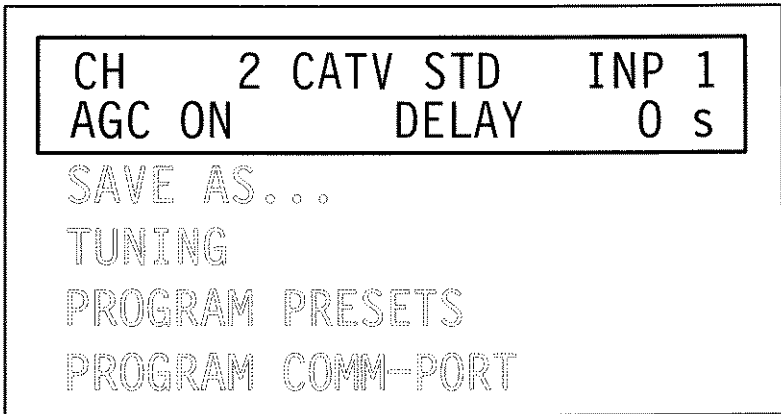

Figure 2-2: The TDC5 Display After Selecting MENU
3. For channel table tuning, return to the TUNING menu and select CATV STD, HRC, or BROADCAST. This will cause the menu to begin with CH. Use the up or down key to sequence through the menu until CH is flashing. The display will be similar to Figure 2-2.